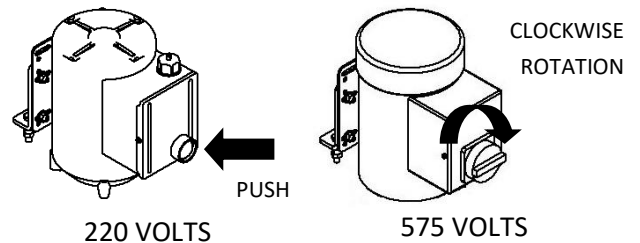

FIGURE 20 : POWER UNIT ACTIVATION
7. ACTIVATE THE HYDRAULIC UNIT TO RISE THE VEHICLE TIRES ABOUT 1" ABOVE THE GROUND. SEE **FIGURE 20**.